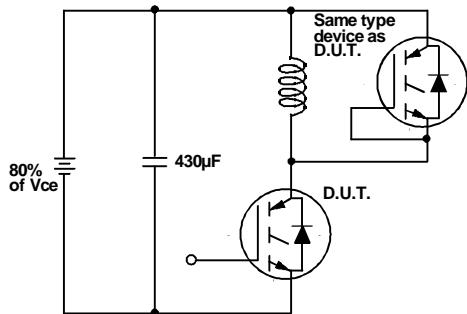

Fig. 18a - Test Circuit for Measurement of I_{LM} , E_{on} , $E_{off(diode)}$, t_{rr} , Q_{rr} , I_{rr} , $t_d(on)$, t_r , $t_d(off)$, t_f
- Fig. 18e - Macro Waveforms for Test Circuit of Fig. 18a